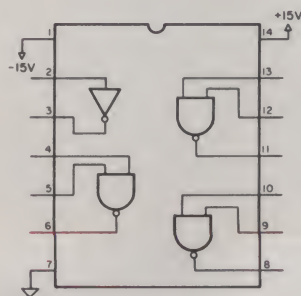

Fig. 9. Pin-out of the 1488-TTL-to-RS-232C driver.
Because converting from TTL to RS-232C levels is such a common job, several manufacturers make the 1488 RS-232C line driver. As shown in Fig. 9, this IC has four drivers, one of which is a plain inverter and three are NAND gates. They all invert because a positive input (1) has to produce a negative output.